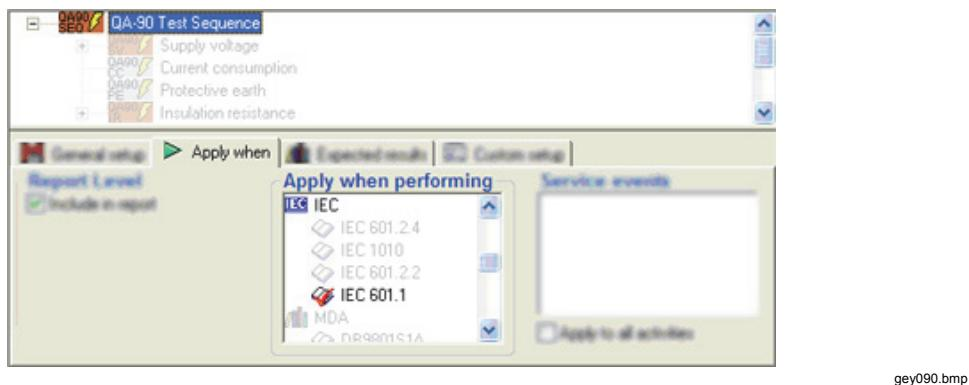

Figure 3-57. Selecting Standards
3. In the list named **Apply when performing**, select the standards against which the test is to be performed. The standards are listed in the Apply when performing box as shown in Figure 3-57.